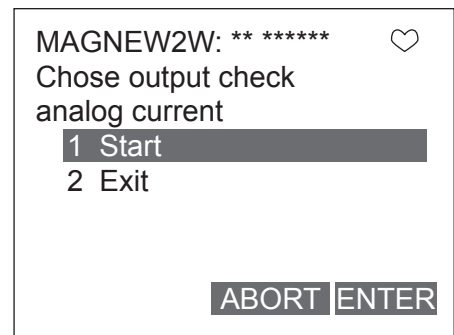

Figure 7-65
2. Figure 7-65 will then appear. Choose START to start fixed value of analog current output, and then press F4 (ENTER)